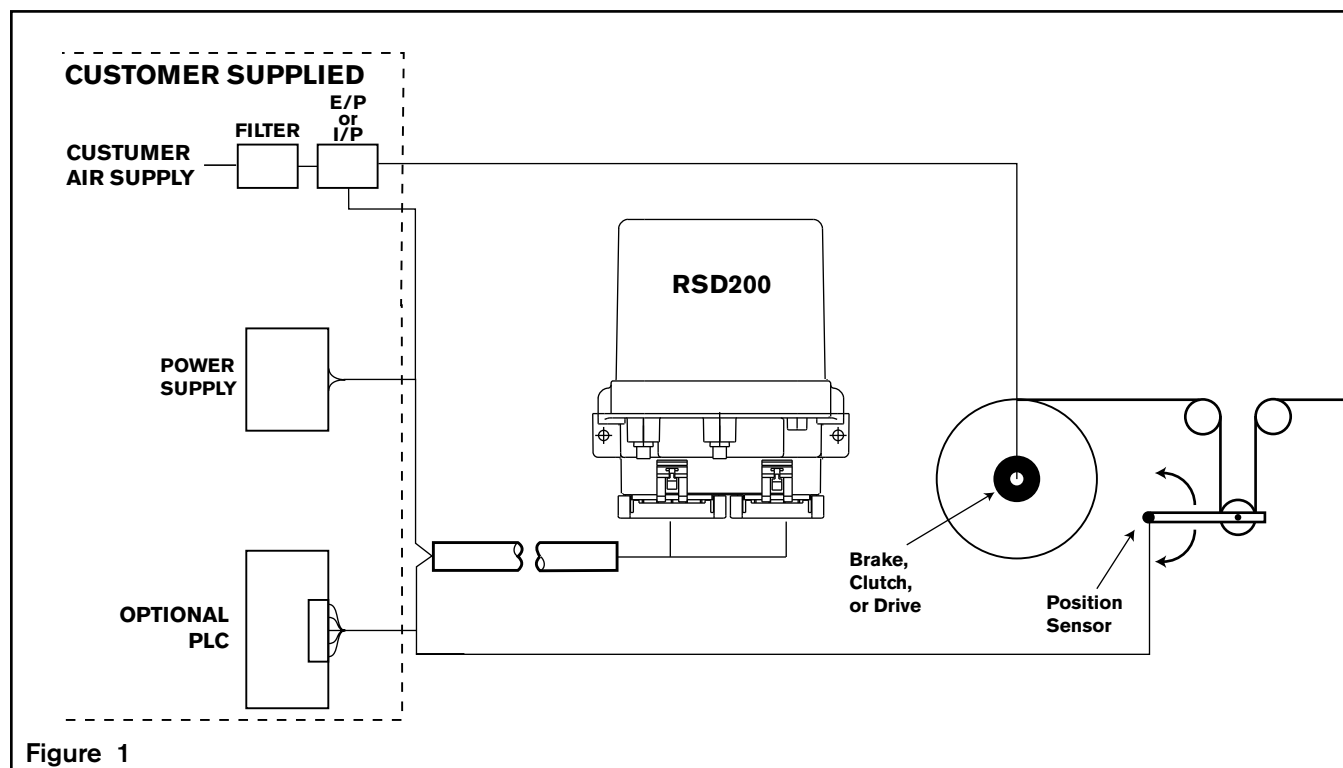

Figure 1
- Use the analog output and a Nexen* current or voltage-to-pressure converter such as the EN40 or EN50 to control a Nexen* pneumatic brake or clutch (Refer to Figure 1).